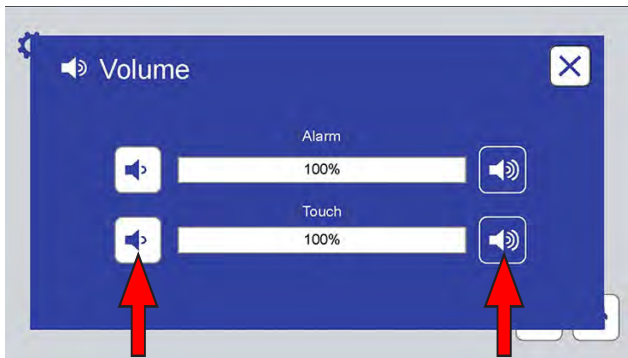
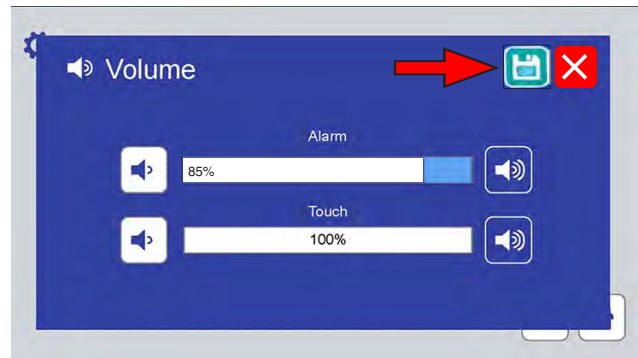

Figure 11.7c: The Volume screen provides controls to set volume (0 to 100) for machine alarms and for the screen touch indicator. Touch a volume icon to adjust.
Figure 11.7d: If a volume is changed, touch the save icon to save the new volume level.
- o Volume (Figure 11.7c and Figure 11.7d).